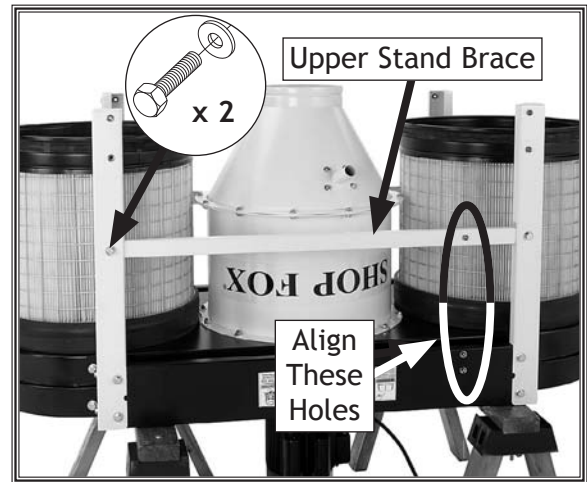

Figure 13. Upper stand brace connected to the upper stand legs.
8. Connect the two upper stand braces to the upper stand legs with (4) $\frac{3}{8}$ "-16 x $\frac{3}{4}$ " hex bolts and (4) $\frac{3}{8}$ " flat washers, as shown in **Figure 13**.
Note: Orient the braces so that the off-center third hole is aligned with the two mounting holes in the blower housing bracket, as shown in **Figure 13**. These mounting holes are for attaching the remote magnetic switch in the next step.